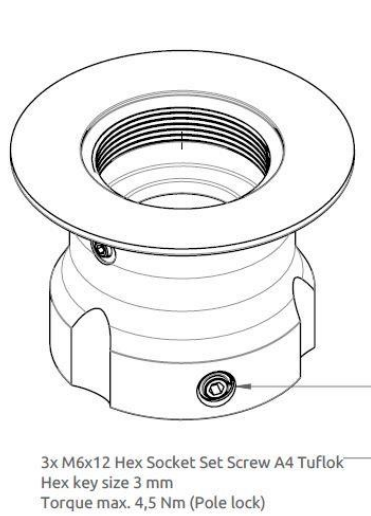
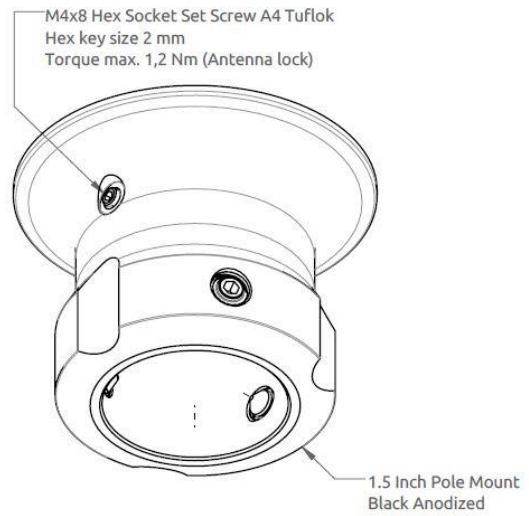

Figure 19: Pole Mount (1.5" tube), Antenna Unit.
Figure 20: Pole Mount (1.5" tube), Antenna Unit.
The Pole Mount (1.5" tube), Antenna Unit is illustrated in Figure 18 to Figure 20.
4. Screw the pole mount (clockwise) on the LT-3130 Antenna Unit, and fasten the antenna lock pinot screw, as illustrated in Figure 20 (max torque = 1.2 Nm)
5. The LT-3130 Antenna Unit and pole mount can now be mounted on the 1.5" tube. Fasten the three pole lock pinot screws, as illustrated in Figure 19 (max torque = 4.5 Nm)
NOTE: The Pole Mount (1.5" tube), Antenna Unit only support a 1.5" tube. The pinot screws (antenna and pole lock) torques are specified in Figure 19 and Figure 20. The pole mount is made of milled aluminum (anodized). The pinot screws are made of A4 stainless steel.